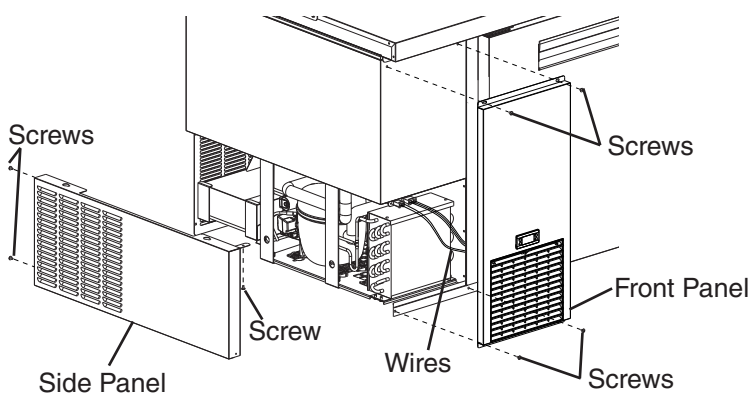

Fig. 40
- 2) Remove the screws securing the front panel, then pull and lift the front panel out slightly to remove it. See Fig. 40. **NOTICE! Be careful not to pull out the front panel too far because there are power wires and thermistor wires attached to the control module in the front panel.**